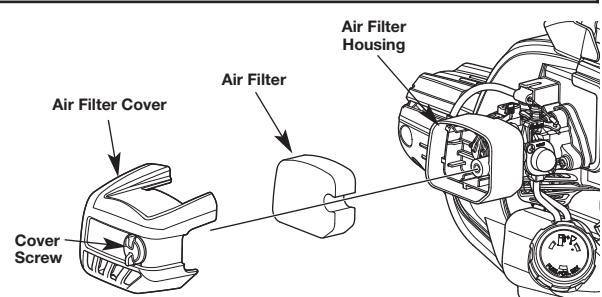

Fig. 16
- Open the air filter cover by unscrewing the cover screw (Fig. 16).
- Remove the air filter and the screen that sits behind it (Fig. 16).
- Replace the air filter and the screen that sits behind it (Fig. 16).
- Reinstall the air filter cover. Insert the hooks on the air filter housing into the slots on the air filter cover (Fig. 16).
- Swing the air filter cover to the right and align the cover screw with the cover screw hole (Fig. 16).